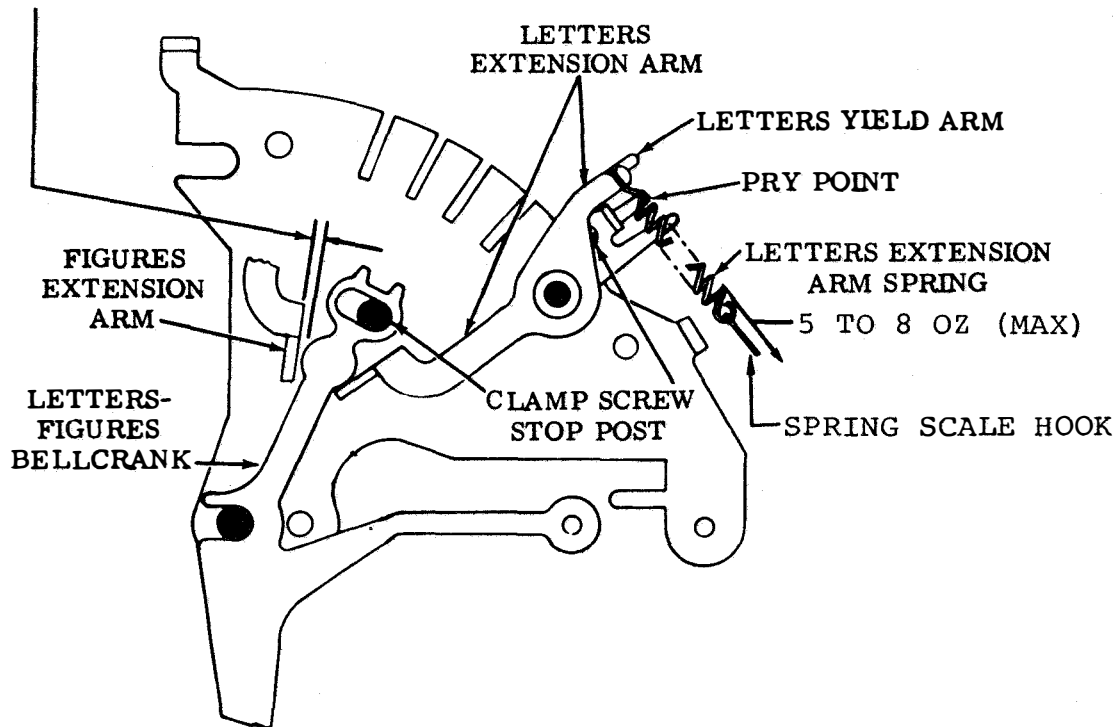

Figure 6-276. LETTEPS-FIGURES Yield Arms, LETTERS Arm Assembly Spring, and LETTERS Extension Arm Spring, Front View
(d) For LETTERS yield arm, manually place arm assemblies in FIGURES position and hold LETTER-FIGURES bellcrank against right edge of stop post. Measure clearance between bellcrank and FIGURES extension arm (see figure 6-276).
3. For LETTERS yield arm, place arm assemblies in FIGURES position. Using pry point, position FIGURES yield arm to specified clearance. Tighten LETTERS yield arm clamp screw (see Figure 6-276).
(9) FIGURES Arm Assembly Spring. Adjust as follows:
(a) Refer to Figure 6-276.